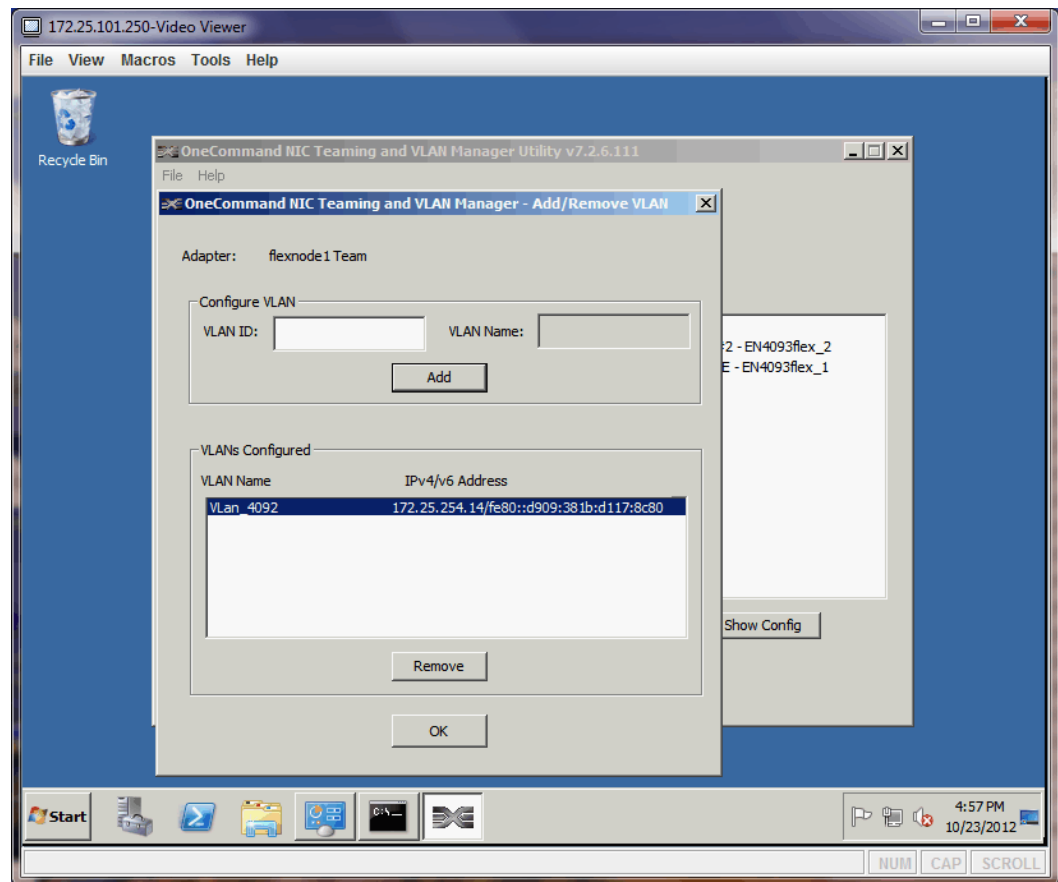

Figure 5-9 VLAN 4092 added to the NIC Team
8. After a few seconds, the VLAN name and observed IP address is displayed in the configuration window. The IP address might need to be changed or statically assigned. In our network, a Dynamic Host Configuration Protocol (DHCP) server provided the address that is shown in Figure 5-9, which we modify in the next step.